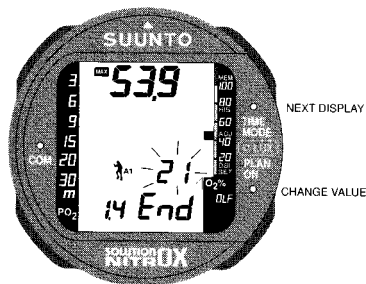

Fig. 4.11 OXYGEN AND PERSONAL/ALTITUDE ADJUSTMENT SETTING
1. Activate the adjustment mode by connecting the TIME/MODE and COM contacts continuously. Release your fingers immediately when Adj appears on the display. Within a couple of seconds the present oxygen and personal/altitude adjustment settings are shown (Fig. 4.11). The oxygen percentage is now blinking.